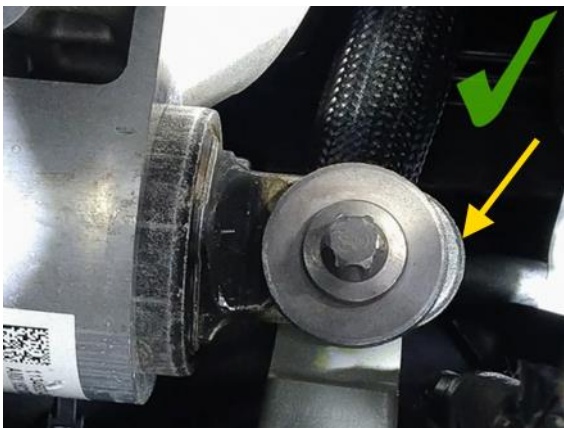

Figure 5
- If the clevis is visible past the front edge of the foremost washer (Figure 5), the clevis does not require repositioning; skip to step 3.
- c. Position a prybar between the clevis and body (Figure 8), and then pry the clevis towards the front of the vehicle until the clevis is visible past the front edge of the foremost washer (Figure 5).
NOTE: Make sure the clevis remains visible past the front edge of the foremost washer (Figure 5).